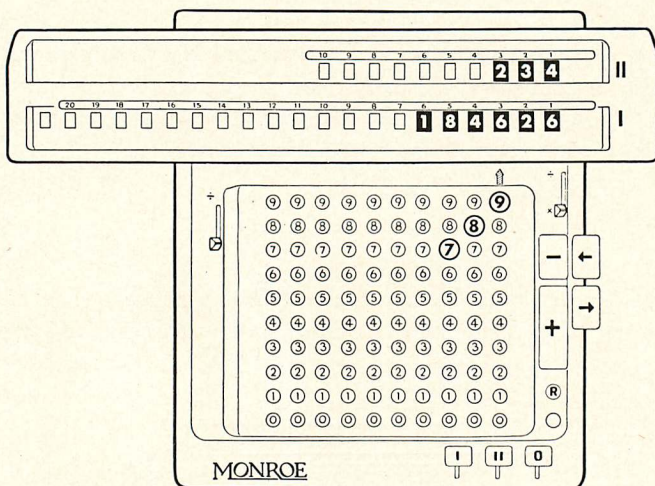

Figure 5
*Step 3*—The machine now reads as in Figure 5: upper dials 234, the multiplier; keyboard (keys depressed) 789, the multiplicand; lower dials 184626, the result. This is complete and positive proof of accuracy. The only further proof required is a visual check of the 234 and the 789 in the machine against the two factors of the problem. If they agree the result must be correct.
At the completion of the previous problem (Figure 5), the machine reads 789 on the keyboard, 234 in the upper dials, and 184626, the result, in the lower dials. Supposing the 789 is a constant multiplicand and the operator